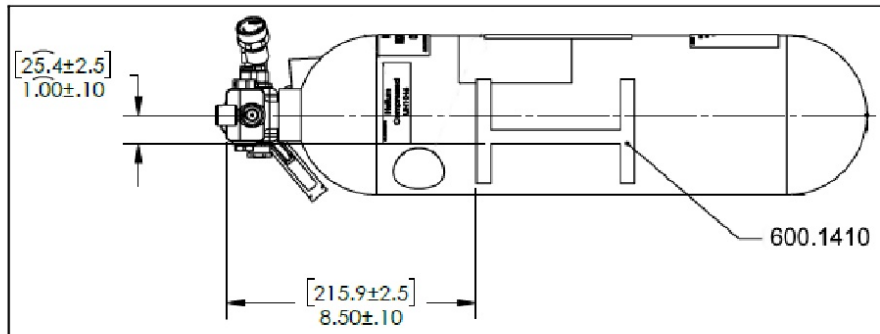
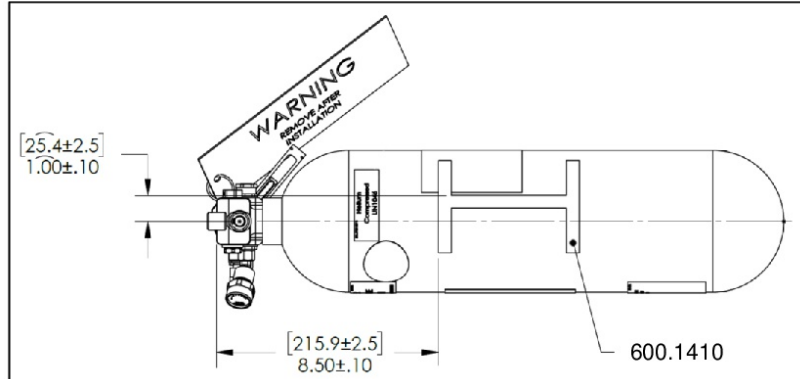

Figure 2: P/N 3G2560V01251/650.4703 Left Hand Reservoir Label Position (Looking Down)
Figure 3: P/N 3G2560V01951/ 650.4704 Right Hand Reservoir Label Position (Looking Down)
3. Verify the P/N 600.1410 Alignment Label is installed per Figure 2 (LH Side) or Figure 3 (RH Side).
8. Remove the adhesive backing from the Alignment Label and install on the cylinder per Figure 2 or Figure 3. Apply pressure to the labels and remove any air bubbles.